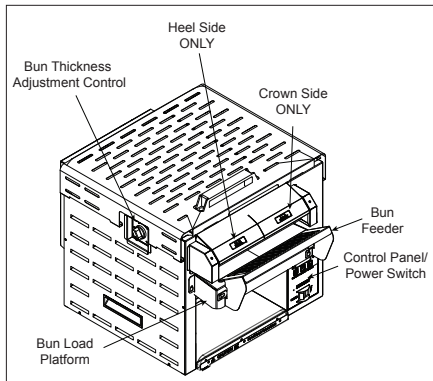

Figure 2. HCT-2000 Toaster
2. Insert Crowns and Heels cut side DOWN across the Bun Load Platform and into the toaster (Figure 2).